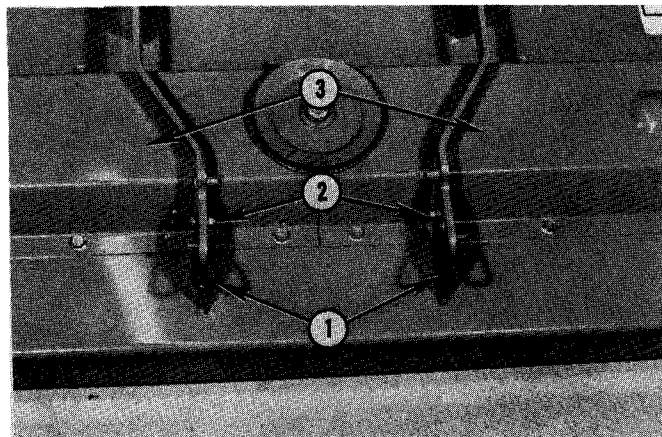

Fig. 39 — Hanger Strap Retainer Springs
1. Install hanger strap retainer springs on rear of mower as shown in Figure 39.